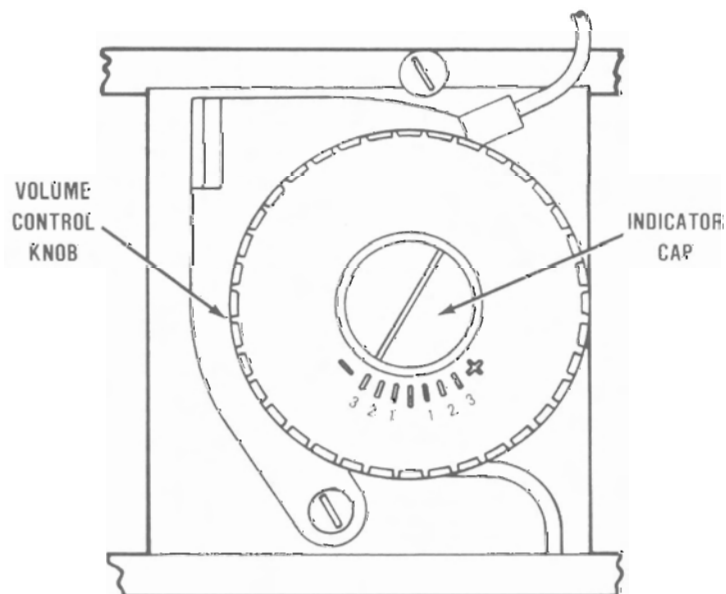

Figure 3-5
- B. Align the index mark on the indicator cap with the most negative scale marker (i.e., -3) on the stain and buffer volume control knobs (see Figure 3-5) by rotating each volume control knob counterclockwise.
As a final alignment check, turn the control knob clockwise until "full stop" occurs. The reference index mark on the indicator cap should now align with the most positive mark (i.e., +3) (see Figure 3-5). If not, service of the pump is indicated, and the authorized distributor service representative should be contacted.
G. Adjust the rinse control knob. A negative three (-3) setting on the rinse control knob is recommended to provide optimum rinsing (see Figure 3-5). This should provide approximately 1 ml/slide. Do not overwash.